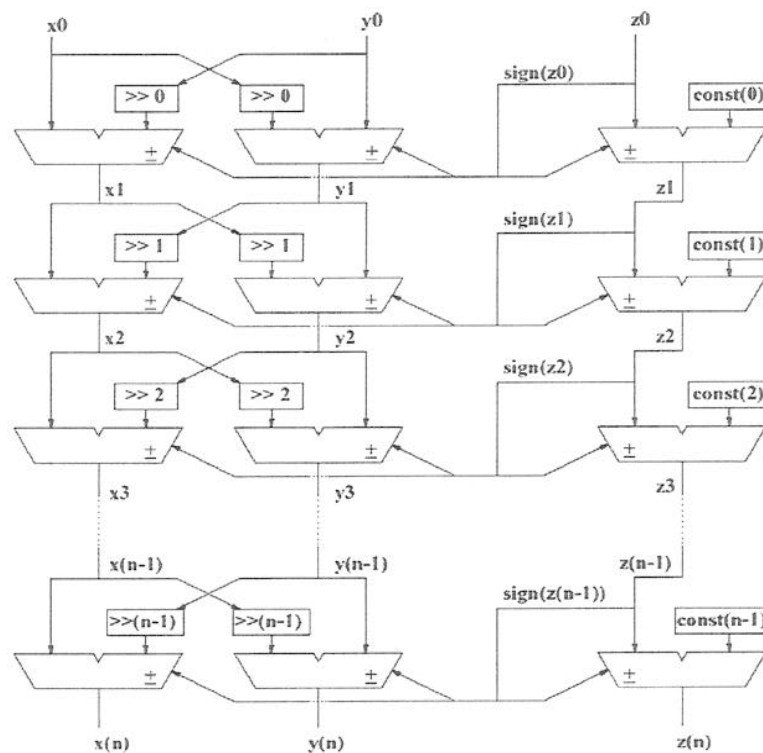

Figure 4.1
4. a) Figure 4.1 shows a parallel implementation of an n-stage CORDIC processor. Hence or otherwise, derive the iterative equations of the rotation mode CORDIC algorithm implemented by the circuit shown.
- c) The CORDIC processor shown in Figure 4.1 is implemented on an Altera Cyclone II FPGA with estimated worst-case delay through the LUT of 0.5ns, a flip-flop setup time of 0.5ns and a clock-to-Q output delay of 1ns. Estimate with reasons the highest frequency at which this processor will operate correctly if all datapaths are 16 bit wide and the CORDIC processor performs 10 iterations. How can this design be speeded up? Estimate the highest operating frequency possible after the speedup.